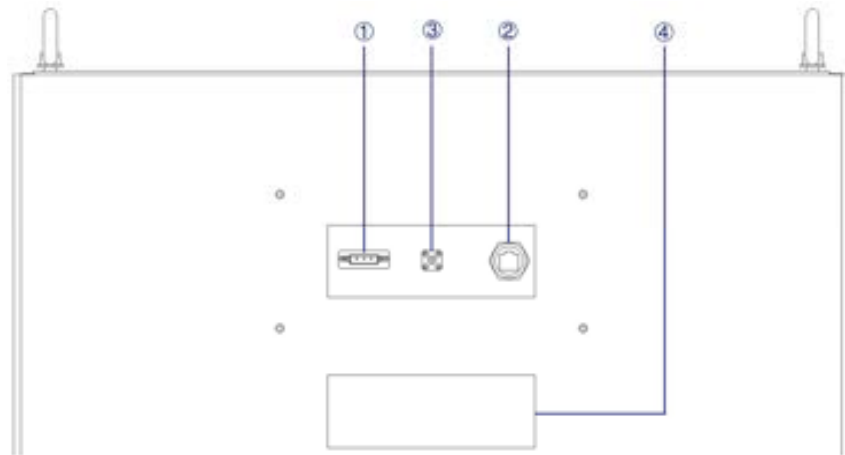

Figure 1-15 Rear panel of power supply
The ATI interface is located on the rear panel of power supply (Figure 1-15③).